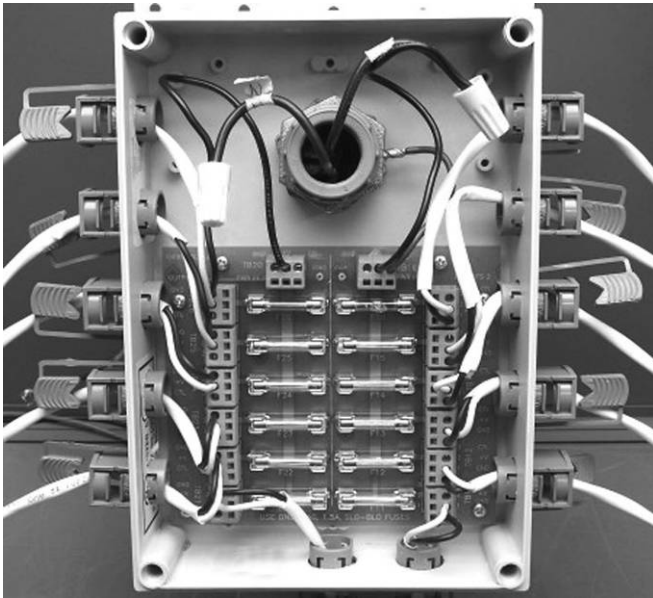

Figure 12: Fuse Box Wiring
3. Strip end of cable as needed and run into the Fuse Box as seen in figure 12. Choose the nearest terminal block that is adjacent to an installed fuse.